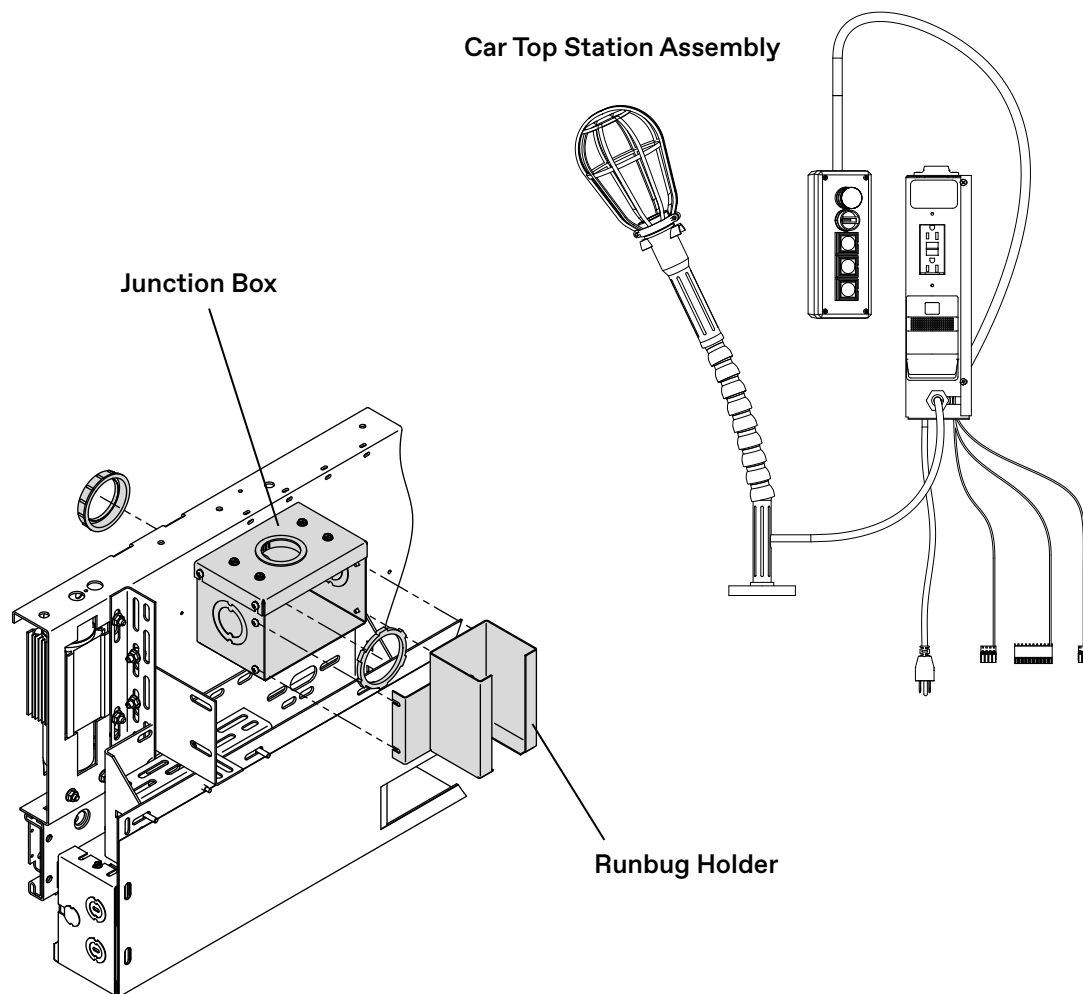

Figure 15 - Car Top Station Installation
16. Install the junction box to the door operator. See Figure 15.
19. Install the CTS to the top of the junction box. See Figure 15.